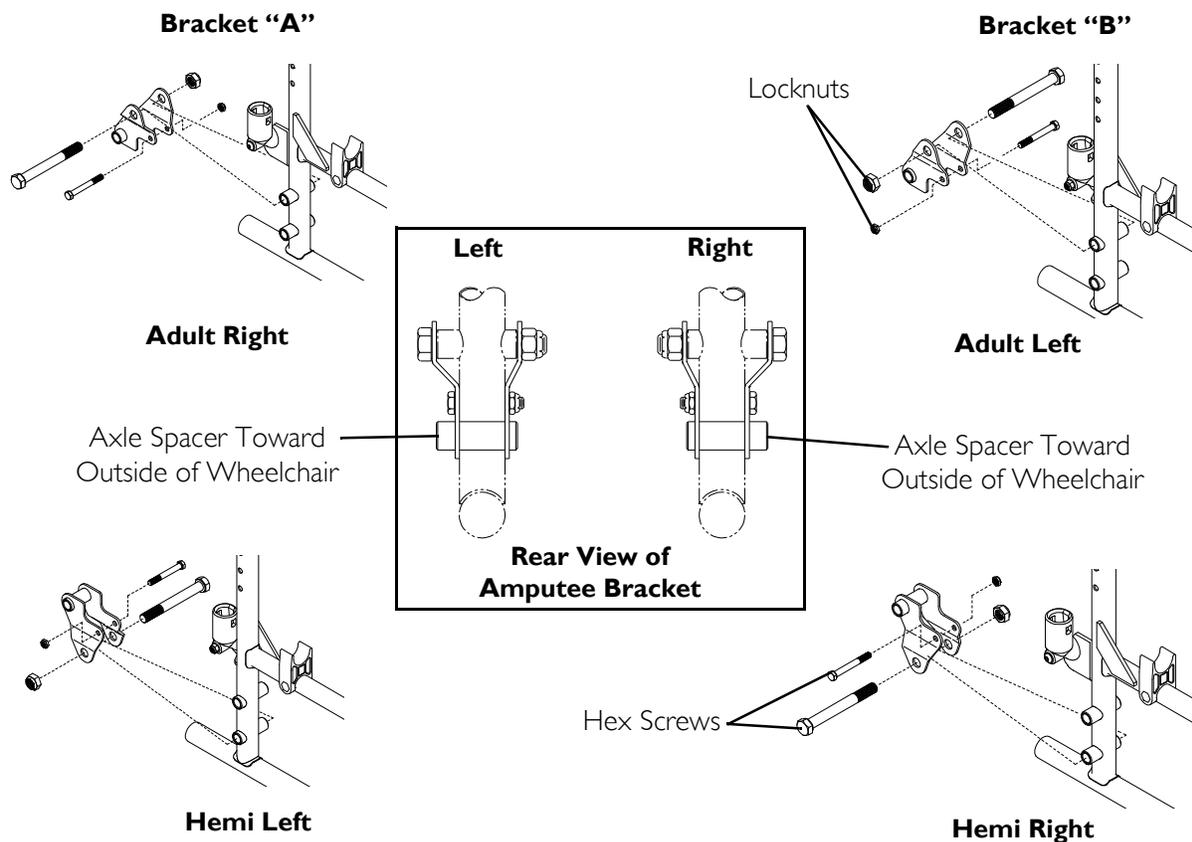

FIGURE 12.1 Installing Amputee Bracket
NOTE: For this procedure, refer to FIGURE 12.1 on page 57.
1. Refer to the following chart or FIGURE 12.1 to determine the mounting position of the amputee bracket: